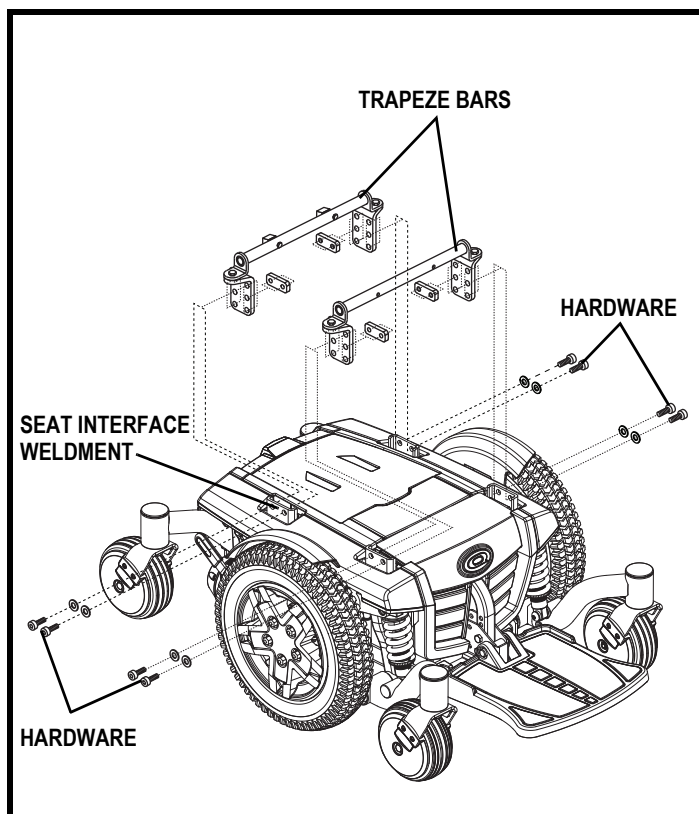

Figure 13. Seat Height/Angle Adjustment—UMS
7. Remove the hardware that attaches the trapeze bars to the seat interface weldments. **See figure 13.**